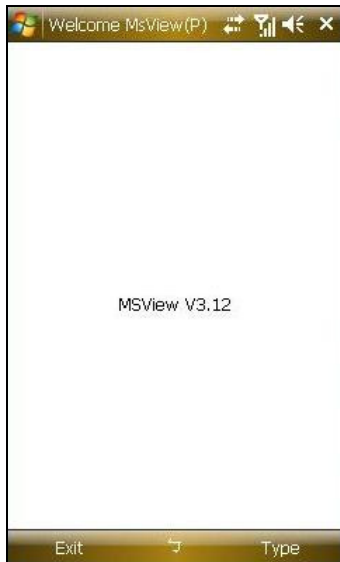

Figure 9-13
3. Select **Type** and then **Rpb** (Figure 9-13). The login screen appears. If you want to search the recordings within a specific period of time for playback, select **Rpb with time**.